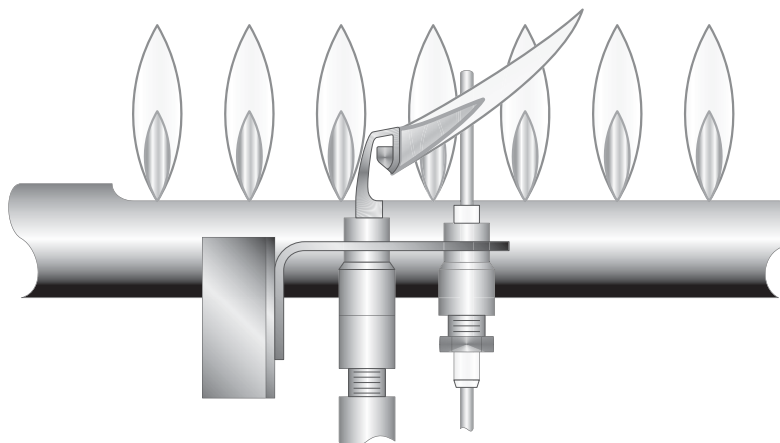

Figure 8.1 Pilot and Burner Flames
7. Check the burner and pilot flames (see Figure 8.1). The flame inner cone should be about 1-1/2" high and should have a very sharp blue color. Poor flame conditions can be caused by dirty burners, obstructed orifices or incorrect gas pressure.